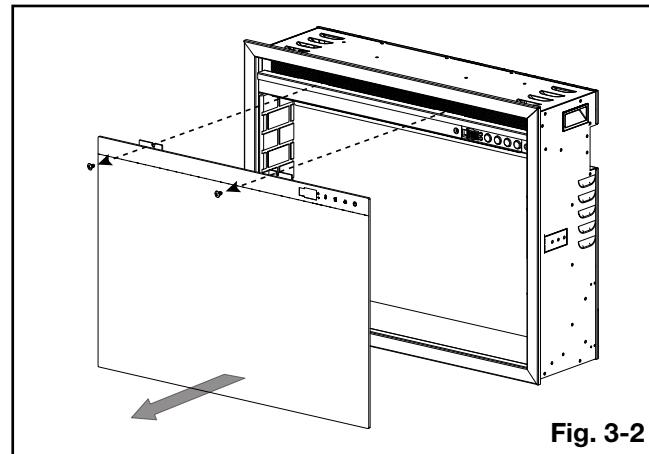

Fig. 3-2
2. With one hand on the glass door to prevent it from falling, remove the 2 screws holding the glass door in place (**Fig. 3-2**). Remove the glass door, and then place it face down on a soft, non-abrasive surface.